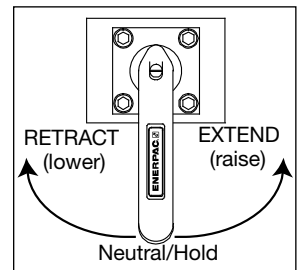

Figure 3, Control Valve
5.1 Control Valve (See Figure 3)
5.5 Operating Instructions (See Figures 3, 4 and 5)